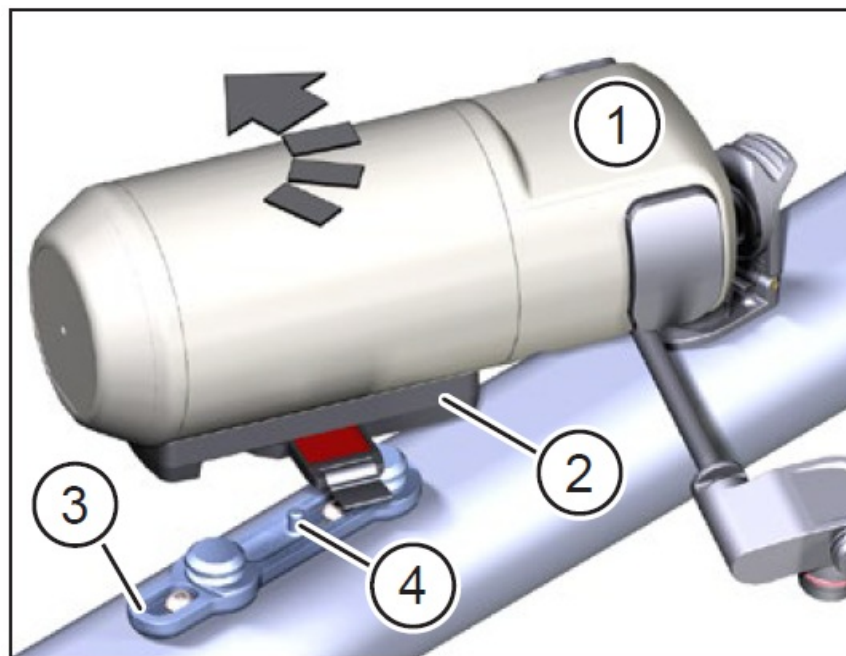

Fig. 4: Insert Range Extender
- Place the Range Extender (Pos. 1 in Fig. 4) with the fastened FIDLOCK® Force Connector (Pos. 2 in Fig. 4) diagonally onto the FIDLOCK® Bike Base (Pos. 3 in Fig. 4). The pin (Pos. 4 in Fig. 4) on the FIDLOCK® Bike Base must slide into the corresponding socket in the FIDLOCK® Force Connector when it is put on. The magnets support the attachment and the Range Extender should automatically lock into place with an audible click.